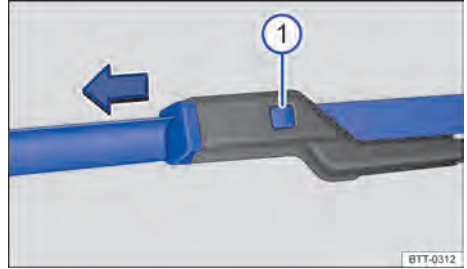

Fig. 167 Replacing windscreen wiper blades.
- Press and hold the release tab → Fig. 167 ① and pull off the windscreen wiper blade in the direction of the arrow.